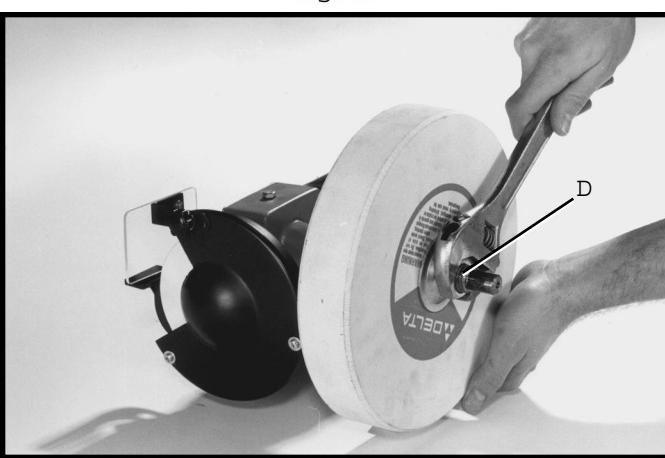

Fig. 21
Hold grinding wheel and turn arbor nut (D) Fig. 21, counterclockwise, when viewed from wheel end of shaft to loosen and remove nut (D). **IMPORTANT: WHEN INSTALLING THE NEW WHEEL, DO NOT OVERTIGHTEN THE ARBOR NUT (D).**